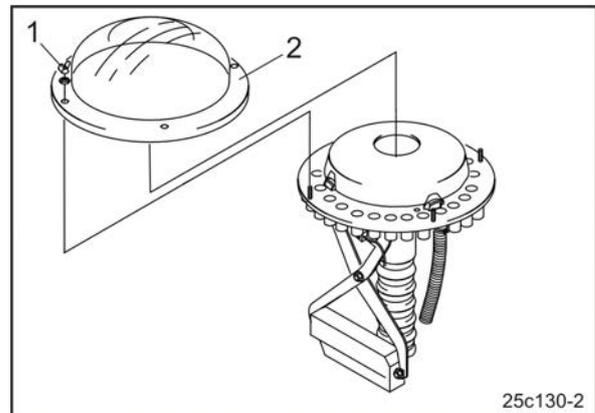

Fig. 127
4. Slacken the winged nuts (Fig. 127/1) and remove the clean plastic flap (Fig. 127/2) from the distributor head.
6. Install the plastic cap (Fig. 127/2).
7. Fix the plastic cap with winged nuts (Fig. 127/1).